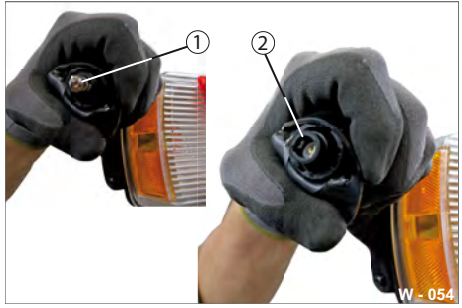

Fig. 54 Replacing the lamp
- ▶ Unscrew the defective lamp (Fig. 54/1).